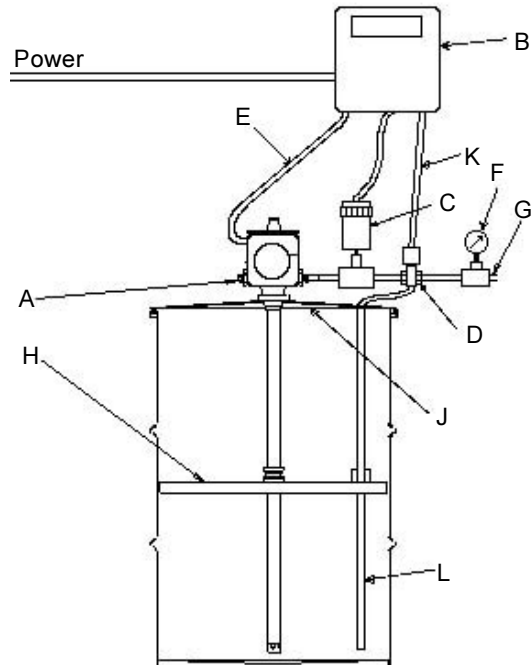

Figure 2
*Note: Centro-Matic Single Line Parallel system will require an electric operated vent valve. The line pressure has to be vented between lubrication cycles to allow the injector valves to recharge. An electrically operated 2-way solenoid valve is required for this purpose. Consult Lincoln Industrial Technical Services for recommendations. See Figure 2.